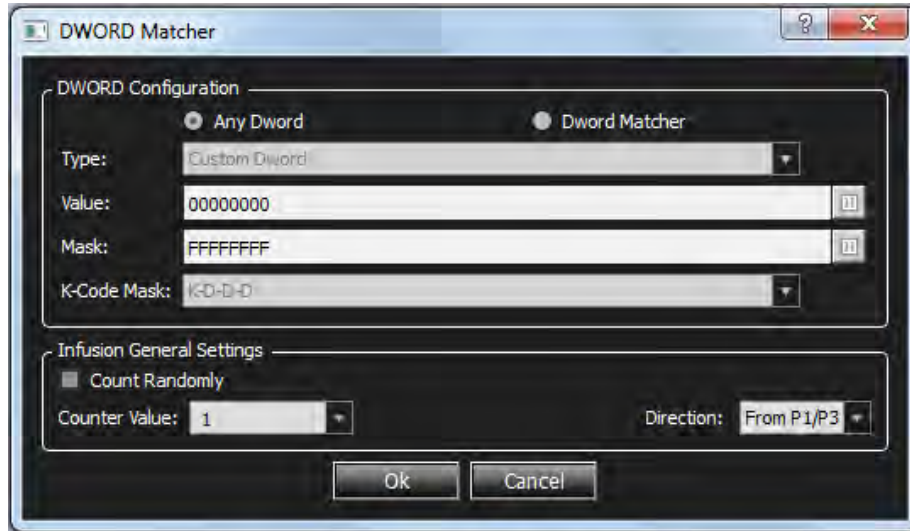

Figure 6.43: Using Captured DWORD as an Event
1. To create an Event using the captured DWORD, in the Add Event dialog (Figure 6.43), select DWORD Matcher and change the Type to the desired Captured DWORD number.